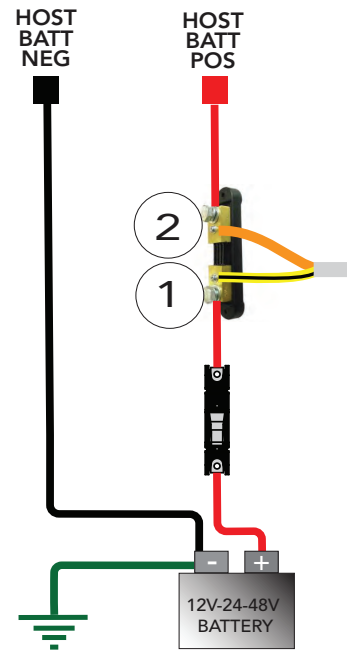

Figure 5-2. Positive Leg Shunt
If installing the shunt on an ungrounded conductor (see Figure 5-2 below), install a fuse or breaker to protect the circuit from a short between the shunt terminals and grounded equipment.
B. Positive Leg Installation (see Figure 5-2 below). For a system with a shunt(s) in the positive leg, connect the yellow/black stripe (twisted-pair) wire to the battery side of the shunt, and then connect the other end to level A(1) or B(1) ReadyShunt terminal.